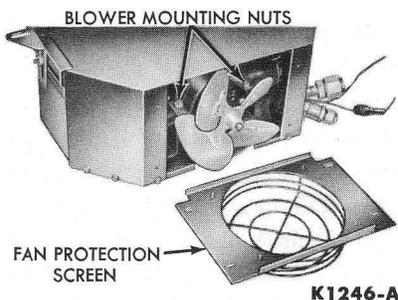

FIG. 16—Blower Motor Mounting
4. Remove the motor mounting screws and clamp, and remove the motor (Fig. 16).